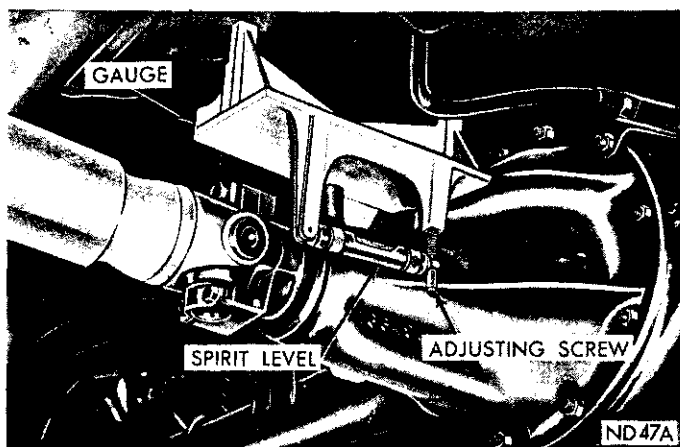

Fig. 8—Adjusting Gauge on Differential (Rear Joint Angle Reference)
(1) Remove pinion bumper plate from differential and carrier housing and position gauge SP-5060 on the machined pads with locating pin in rear bolt hole (Fig. 8). The arrow on gauge should point toward the front of car. On models equipped with 7-1/4 axle place propeller shaft alignment gauge adapter SP-5038 between the gauge and machined pads of the carrier